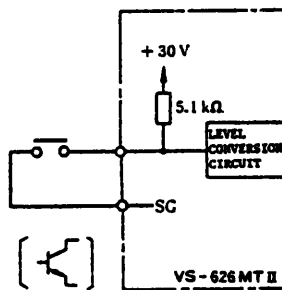

Fig. 3.4 Input Circuit
- . Fig. 3.4 shows the input circuit, and Table 3.5 gives a description of signals.